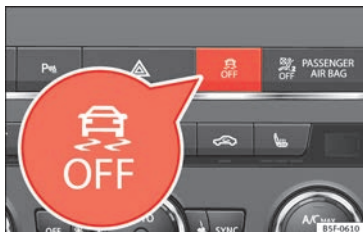

Fig. 190 Centre console: Button for switching on/off the ESC and ASR
- Press the button  » **Fig. 190** for approximately 1 second to switch off the ASR function.
- Press the button  » **Fig. 190** for approximately 3 seconds to switch off the Electronic Stability programme (ESC), including the ASR function.
- The ASR and ESC function are reconnected by pressing the button  » **Fig. 190.**